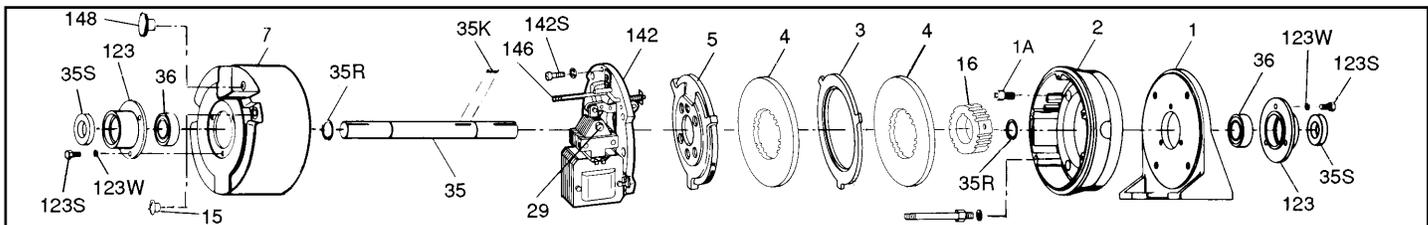
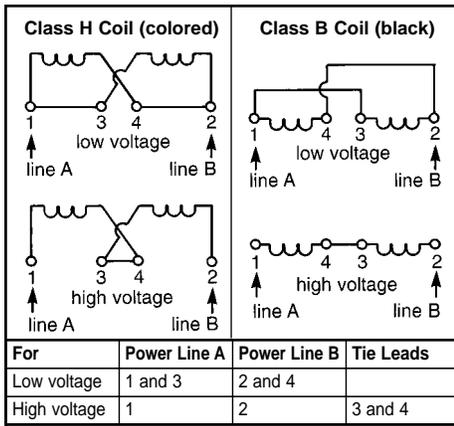

Figure 1A
Figure 4
(See Figure 1A)
As shown in the exploded view, Figure 1A, the 87,200 Brake is very similar to the motor mounted 87,000 Series. It is, however, a self-supported, foot mounted unit, with an integral bearing supported through-shaft. Since disassembly is not required prior to mounting, installation is simplified.
1. Dual voltage coils may be factory preconnected for high voltage with wire nuts. Checking coil connection is suggested. On the 87,200 only, coil lead wire termination is accessible at lead wire outlet of endplate (2). Four lead style are marked on leads for connection per Figure 4. Two unmarked leads mean preconnection made for high voltage. If reconnection of a dual voltage coil is required (two unmarked leads) on the 87,200, housing (7) must first be removed per Section and Figure 1A. Reconnect coil for appropriate voltage as shown in Figure 4. Bring out line leads.
2. On single voltage coils, connect coil to any two leads on single or three-phase motors of the same voltage as the brake. Refer to brake nameplate and coil number for correct voltage and frequency. See Figure 4 for dual voltage coil connection and connect to any two leads of single or three-phase motor of the same voltage. The brake can also be wired to external switch contacts providing proper voltage other than that used to control the motor. Normally, the motor and brake contacts are interlocked.